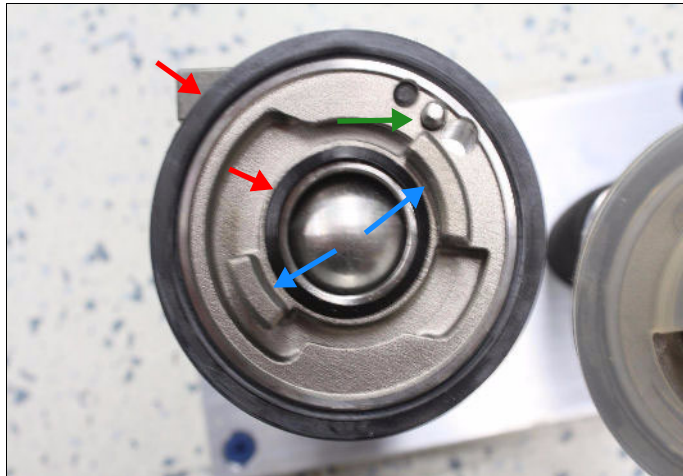

Figure 1-19 Coolant hose connector
1. Remove the plastic cover and inspect the two o-rings (see the red arrows in Figure 1-19) on the supply and return coolant connectors. The outer o-ring is for protection only, and the inner o-ring is for the seal. Also perform this step for the facility coolant connectors.
- c. Repeat these steps on other coolant connector on the rack. Figure 1-19 shows the coolant hose connector.
perspective of the hose). Aligning the hex screws ensures that you have correctly aligned the interlocking tabs (see the blue arrows that are shown in Figure 1-19 on page 16).